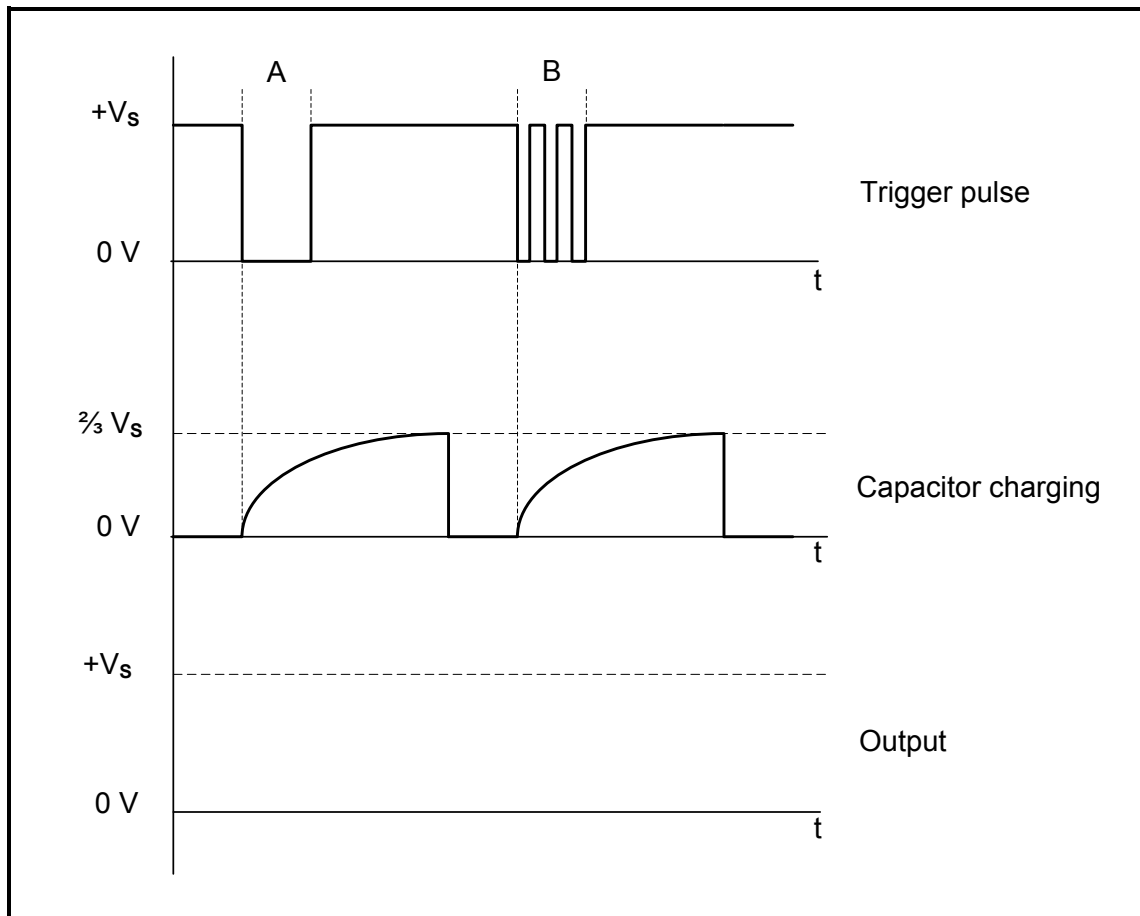

FIGURE 2.4: MONOSTABLE MULTIVIBRATOR TRIGGER PULSES
- 2.4 FIGURE 2.4 below shows input trigger pulses A and B to a 555 monostable multivibrator. Answer the questions that follow.